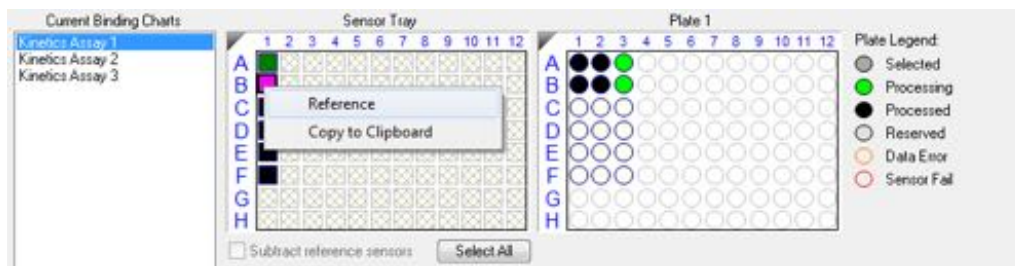

Figure 8-58: Designating a Reference Biosensor in the Runtime Binding Chart
1. In the **Sensors to Chart** list or the **Sensor Tray**, right-click a biosensor and select **Reference** (see Figure 8-58).